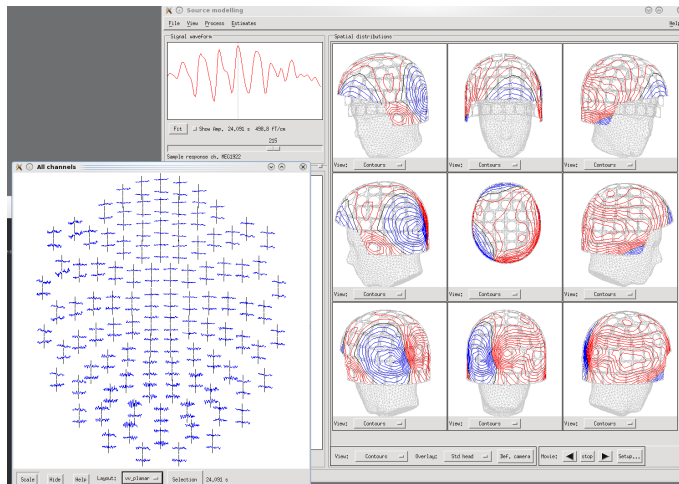

Figure 59: *Xfit* displays of alpha waves.
- Review the spatial displays. In this example, both instantaneous spectra in *Graph* and **View -> Full view** display in *Xfit* show clear alpha oscillations (Figure 59). The timepoint selection at one of the peaks displays a bipolar field pattern in the left occipital region.